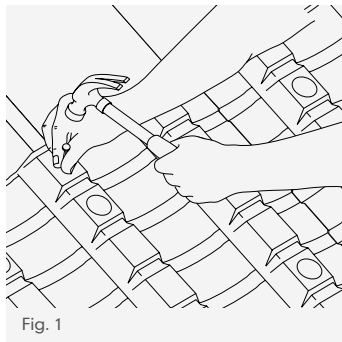

Fig. 1
- 2 Pull and adjust to correct rafter centres and twice nail, using 25mm long aluminium nails (Fig 1, page 130).